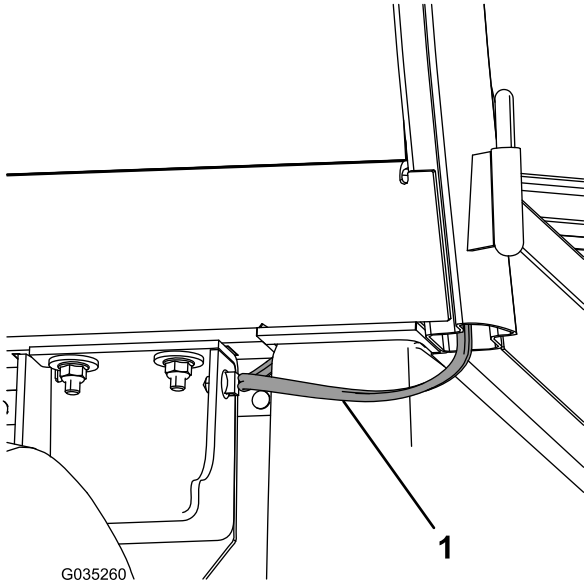

Figure 19
- Route the wire harness behind the cab and under the seat, and secure the clip on the wire harness to the side panel (Figure 19).
3. Route the wire harness behind the cab and under the seat, and secure the clip on the wire harness to the side panel (Figure 19).